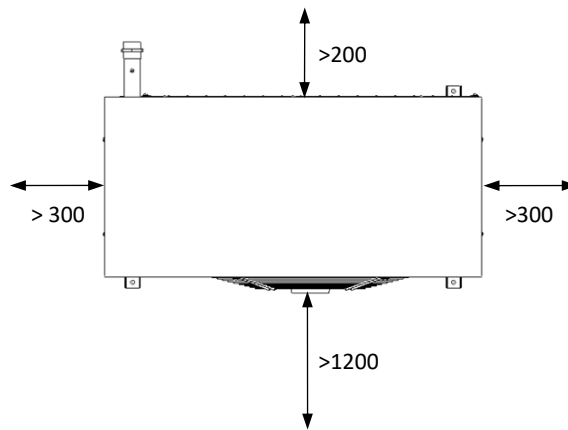

Figure 2.3. Minimum recommended service areas around the AU unit (expressed in mm).
- Do not attempt to guide the air that enters or exits the AU unit. The unit must be installed outdoors without any type of piping and respecting the minimum distances specified in Figures 2.3 and 2.4.